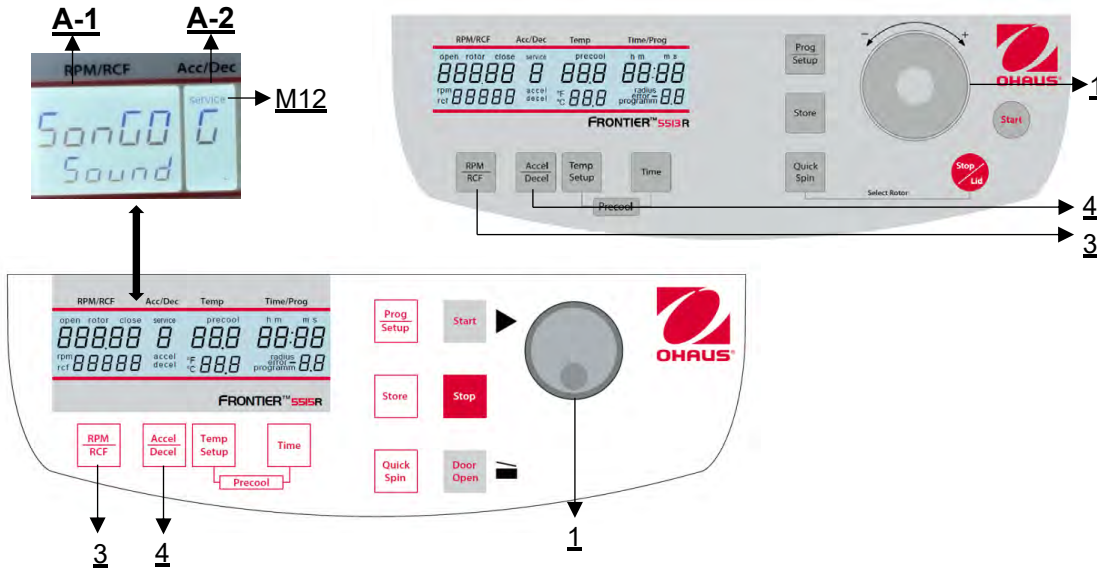

Figure 29
Proceed as described under point 4.1.1 to enter this program mode and then press the key **"Accel/Decel"** (4). In the display **"Acc/Dec"** (A-2) the word **"Service"** (M12) flashes. Now select the letter **"G"** with the adjusting knob / touch wheel (1). As a result, the words **"SonGo/Sound"** appear in the display **"RPM | RCF"** (A-1). After pressing the key **"RPM | RCF"** (3), you can select a song with the adjusting knob / touch wheel (1) (see **Figure 29**).